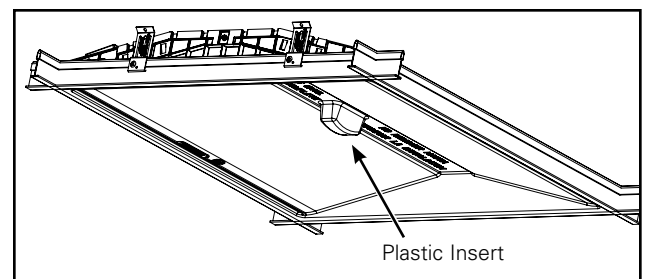

Figure 1.
2. Note that the protective plastic insert that is shipped in the luminaire is intended to stay in the luminaire for protection of the lenses during installation (Figure 1.). Take caution when handling the luminaire to not scratch or damage the lenses in the fixture.